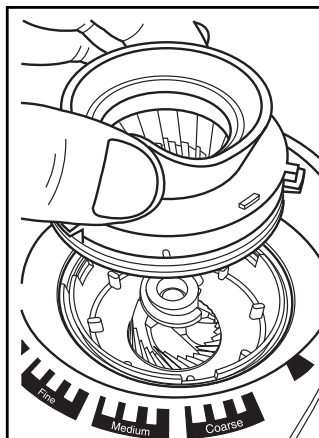
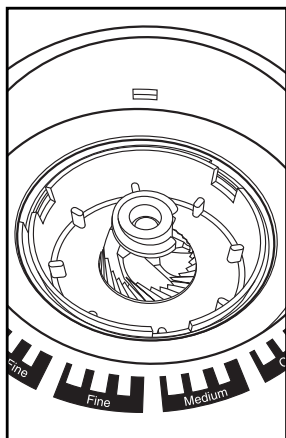

Fig. 5
Fig. 6
3. Lift the upper burr (Fig. 5) and check if the grinding chamber is free of any foreign objects (Fig. 6).
6. When grinding in the two or three finest settings (for Turkish coffee) only fill a few scoops of coffee beans into the bean container and check if the ground coffee passes through into the ground coffee container. After grinding in the finest settings we highly recommend cleaning the grinding chamber (Fig. 6) before next use.
2. Coffee oils can deposit inside the grinding chamber and become rancid. Clean the grinding chamber daily (Fig. 6).